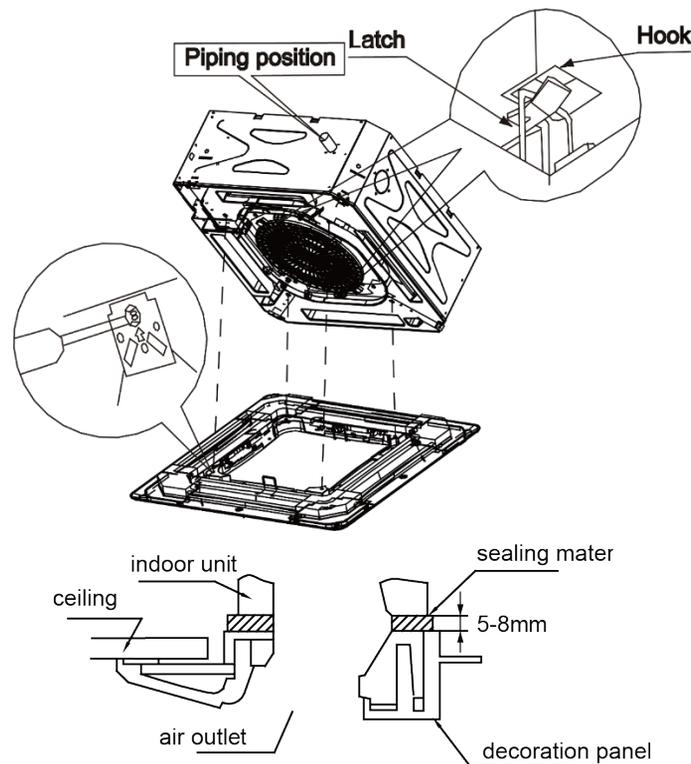

Fig.4.4.5
- (2) Temporarily hang the panel to body (there is four hangers on each corner of the panel, hang the hangers to corresponding hooks on the body), as shown in Fig.4.4.5.
- (3) Detach the air inlet grille from panel, make a wiring connection of signal receiver. Notices that the connection wire not stuck in the middle of body and panel, or may cause air leakage and lead to condensation water drop.
- (4) Tighten 4 screws at each corner of panel respectively, fix the panel on the body firmly.
(5) After tightening screws, reinstall the air inlet grille.